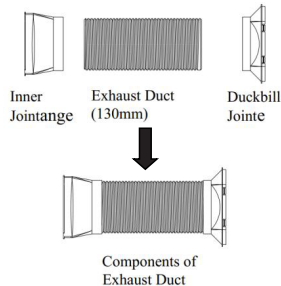

Figure 1
1.1.1 Screw the air duct counterclockwise into the internal joint (as shown in Fig. 1)
1.1.2 Screw the duck-billed joint into another side of the exhaust duct (as shown in Fig. 1).